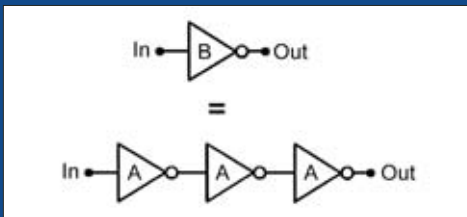
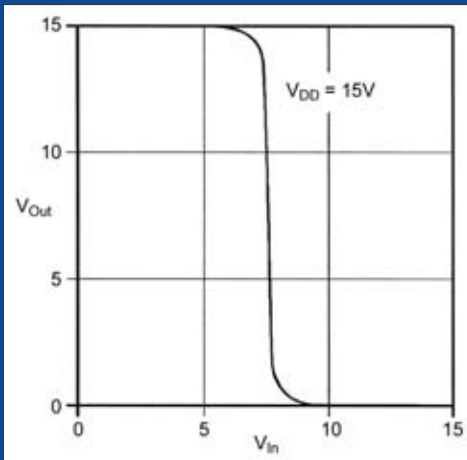

FIGURE 7. A B-series CMOS inverter can be made by wiring three A-series types in series.
FIGURE 8. Voltage transfer graph of the Figure 7 B-series inverter.
The glow lamp cannot only be used as an indicator, but also as a useful circuit element. Figure 7 shows a simple circuit that can be connected to the boost power supply that will flash two neon bulbs alternately. Smaller values of the capacitors and resistors increase the flashing frequency, larger values slow the flasher down. The higher the voltage, the faster the lights will alternately flash. The capacitor should be non-polarized with a voltage rating of more than 100 volts. Figure 8 shows the working neon flasher hooked up to the boost power supply.
■ FIGURE 8. Working neon flasher.
The defects of the 4000A-series were so severe that an improved CMOS series, known as the '4000B' or buffered series, was introduced around 1975, and the old 4000A-series was slowly phased out of production. The major feature of this new series is that each of its 'inverters' consists of three basic inverters wired in series, as shown in Figure 7, so that each 'buffered' inverter has a typical linear voltage gain of 70 to 90 dB and has the typical voltage transfer graph of Figure 8, in which any input below $V_{DD}/3$ is recognized as a logic-0 input and any input above $2V_{DD}/3$ is recognized as a logic-1 input.